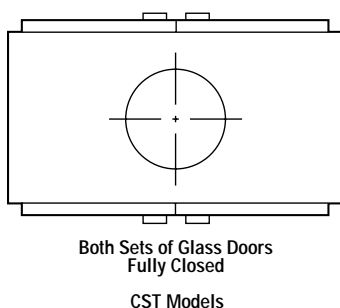

Figure 3
**WARNING: THE CST AND CPF FIREPLACES SHOULD BE OPERATED WITH BOTH SETS OF GLASS DOORS FULLY CLOSED. IF THE DOORS ARE LEFT OPEN OR PARTIALLY CLOSED, GAS AND FLAME MAY BE DRAWN OUT OF THE FIREPLACE OPENING, CREATING RISKS OF BOTH FIRE AND SMOKE. REFER TO FIGURES 3 AND 4 FOR PROPER OPERATING CONDITIONS.**